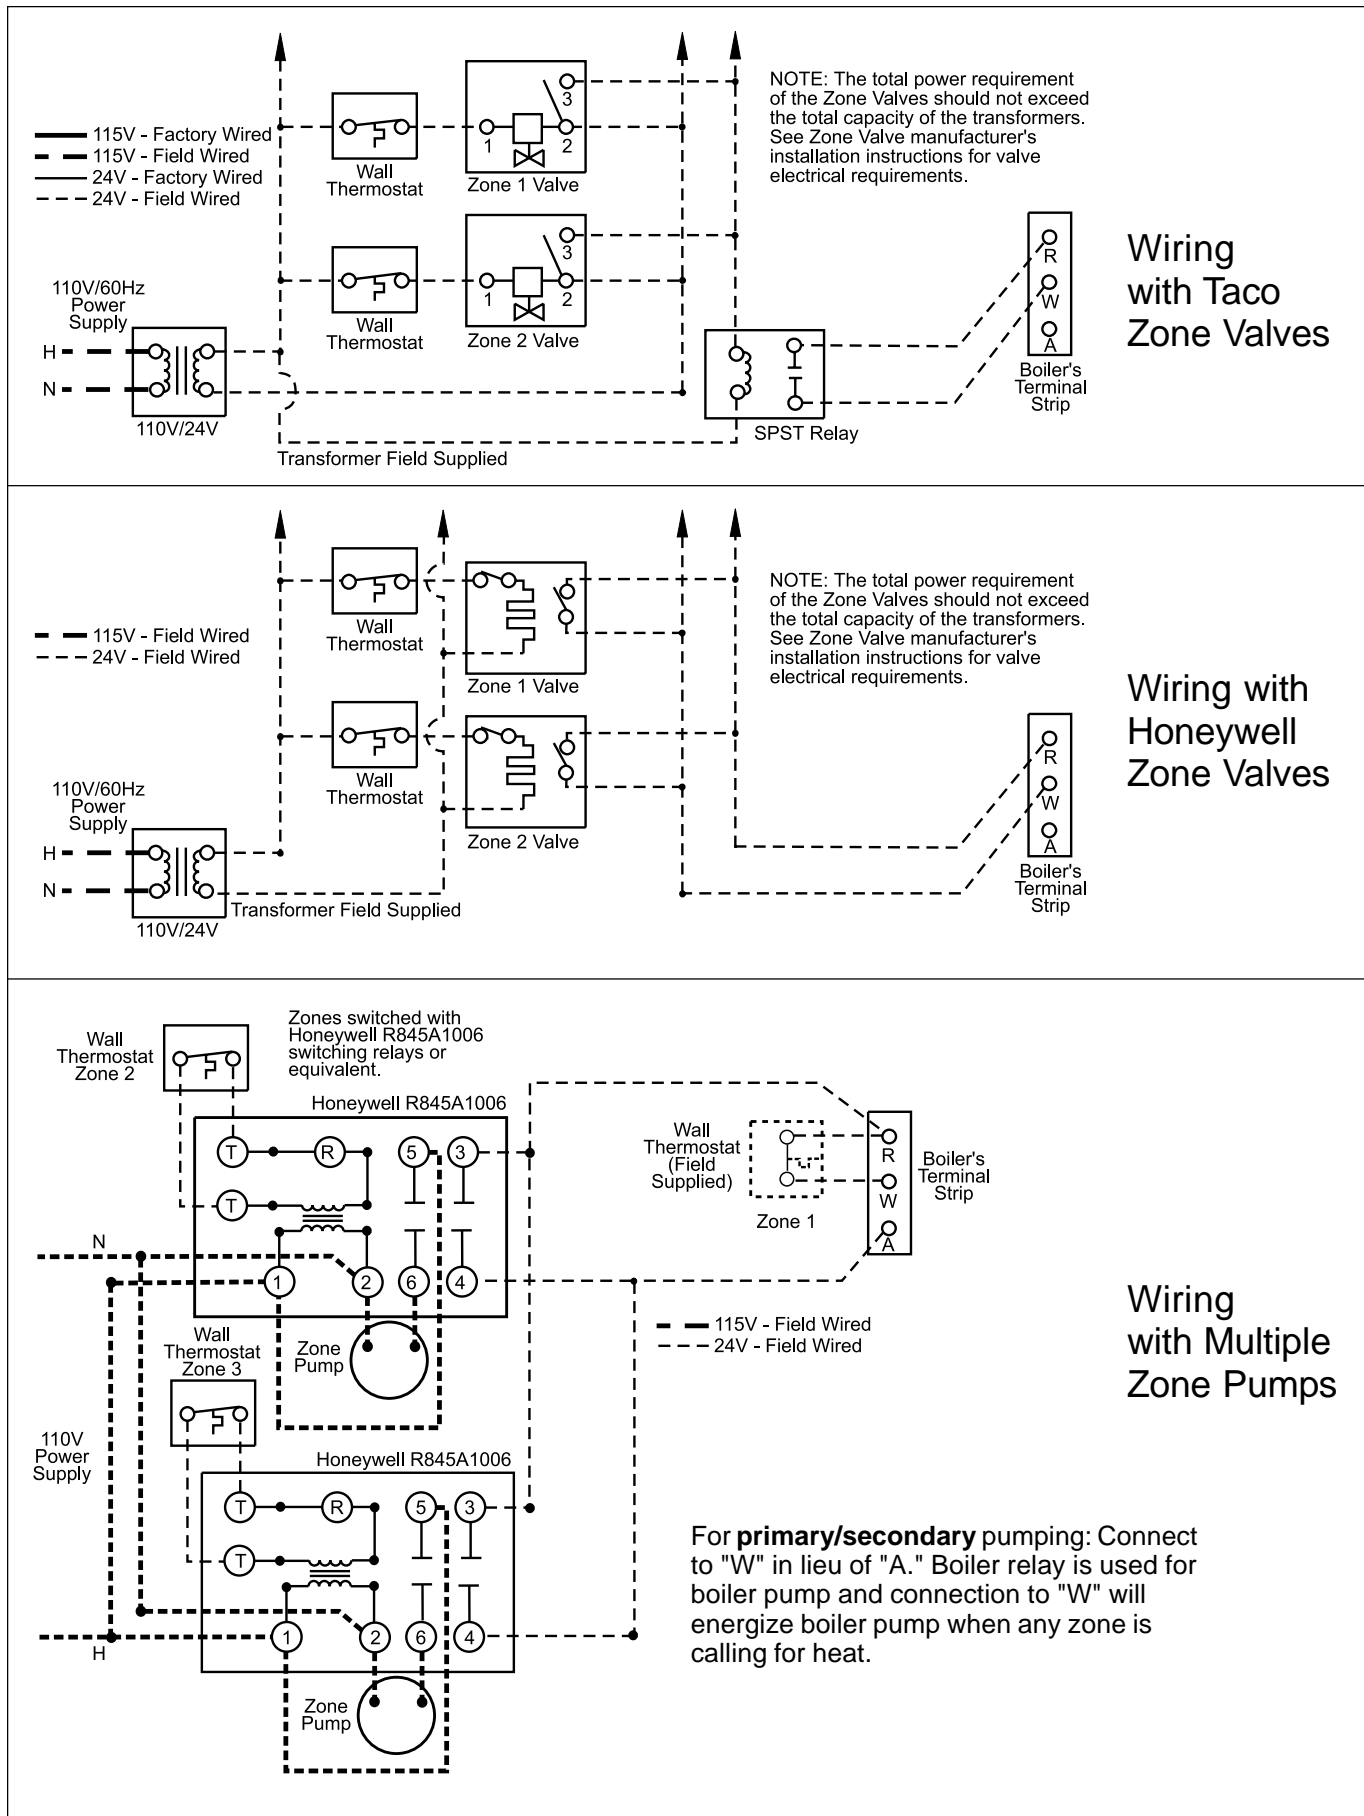

Figure 11. Multiple Zone Wiring.
6. For systems with multiple zone pumps or valves (see Figure 11).